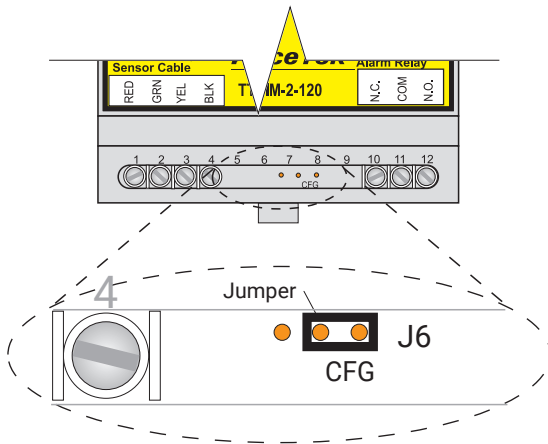

Figure 7a. Configuration Jumper in Configuration Position
- Place the TTSIM-2 configuration jumper in the CFG position, as shown in Figure 7a.